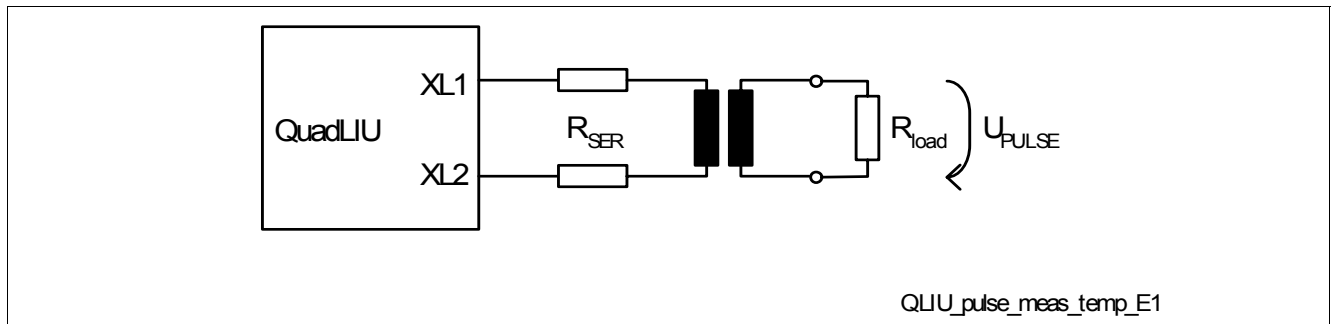
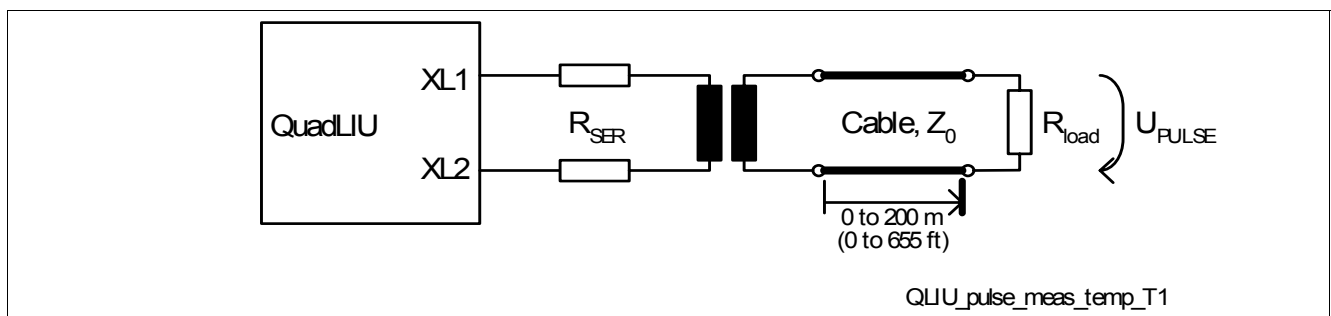

Figure 39 Measurement Configuration for E1 Transmit Pulse Template
Figure 40 Measurement Configuration for T1/J1 Transmit Pulse Template
- For T1: FCC68; ANSI T1. 403 1999, figure 4; ITU-T G703 11/2001, figure 10 (for different cable lengths), see Figure 64 and Figure 40 for measurement configuration were  $R_{load} = 100 \Omega$
- For E1: ITU-T G703 11/2001, figure 15 (for 0 m cable length) see Figure 63; ITU-T G703 11/2001, figure 20 (for DCIM mode), see Figure 39 for measurement configuration were  $R_{load} = 120 \Omega$  or  $R_{load} = 75 \Omega$
If LBO attenuation is selected, the programming of XPM(2:0) will be ignored. Instead the pulse shape programming is handled internally: The generated pulse shape before LBO filtering is the same as for T1 0 to 40 m. The given values are optimized for transformer ratio: 1 : 2.4 and cable type AWG24 using transmitter configurations listed in Table 28 and shown in Figure 37. The measurement configurations of Figure 39 with  $R_{load} = 120 \Omega$  and Figure 40 with  $R_{load} = 100 \Omega$  are used.